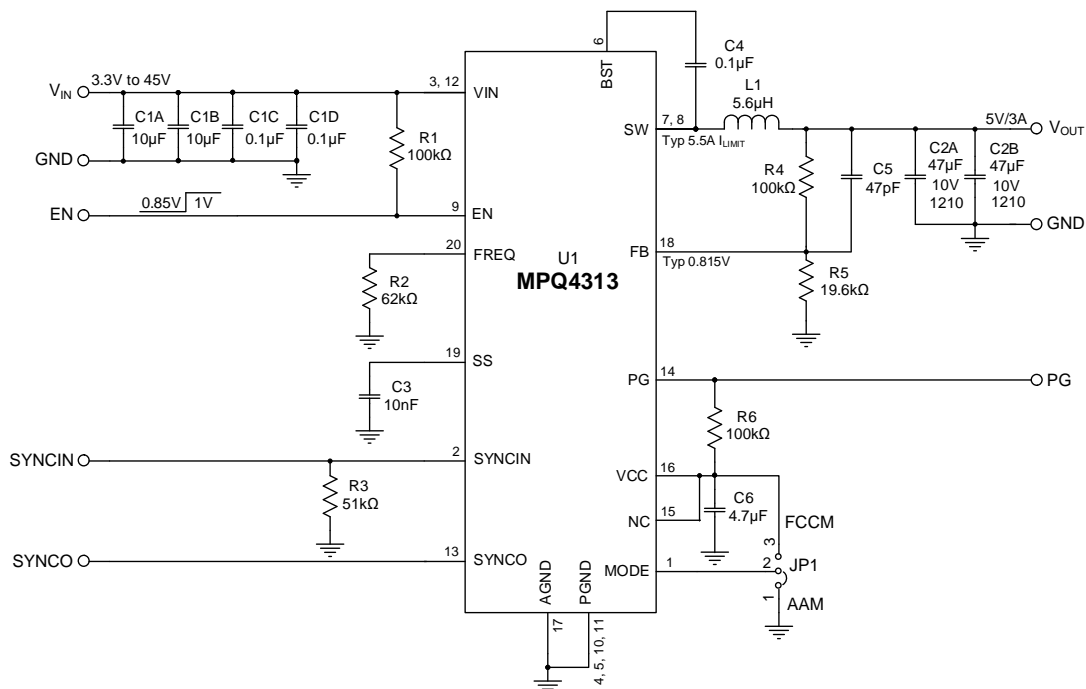
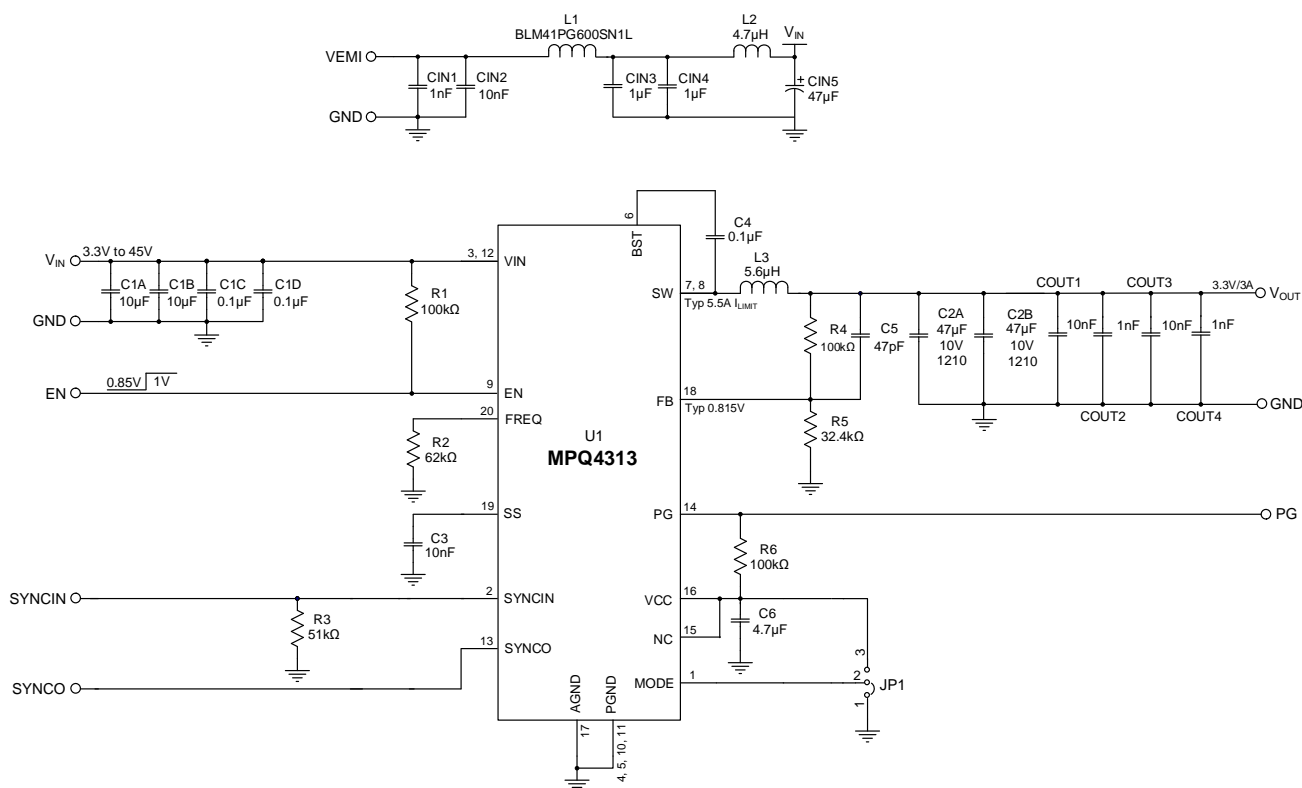

Figure 12: Typical Application Circuit ($V_{OUT} = 5V$, $f_{sw} = 470kHz$)
Figure 13: Typical Application Circuit ($V_{OUT} = 3.3V$, $f_{sw} = 470kHz$ with EMI Filters)
10) The recommended PCB layout is based on Figure 12.
Updated the Figure 12, Figure 13, and Figure 14 to include the typical I _{LIMIT}	33–34